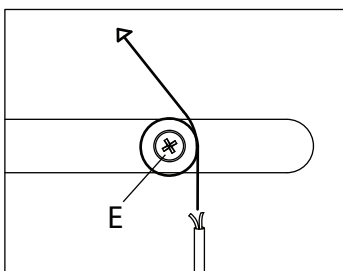

Fig. 1
1. Shut off power to the outlet box (A).
3. Use the screwdriver (B) to loosen the set screws (C). Loop the cords (D) around the outer spacers (E) (Fig. 1) and feed them through the bushings (F) in the canopy (G). Adjust the cords to the desired length. Tighten the set screws to set.